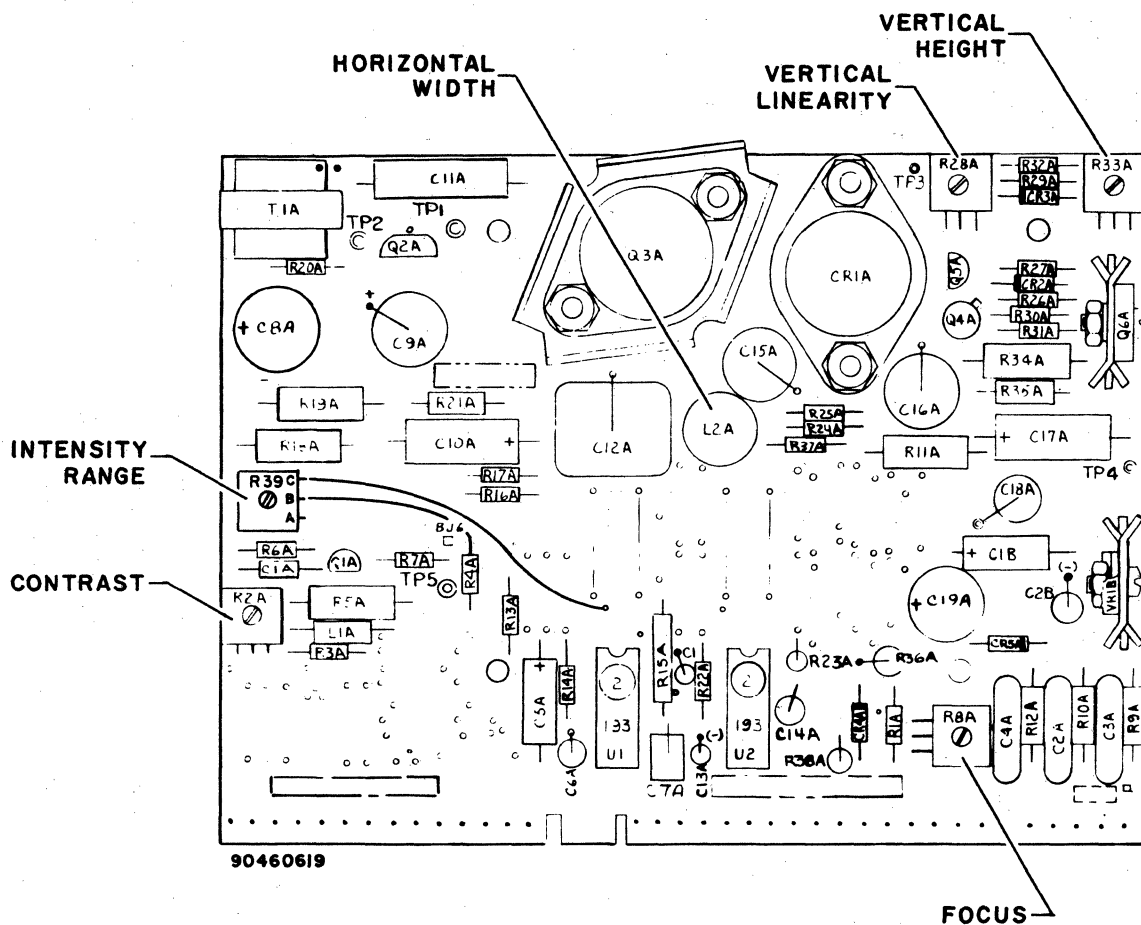

Figure CRT43. Monitor Printed-Circuit Board Adjustments (Focus Adjustments)
- 7) Adjust vertical height by turning adjustment screw (figure CRT43) until rectangle of display characters is 5.25 ± 0.1 inches (13.3 cm) in height.
- 8) Adjust horizontal width to 8.0 ± 0.1 inches (20 cm) by turning adjustment screw in coil (figure CRT43) using a 3/32-inch nonmetallic hex driver.
- 12) Adjust the INTENSITY RANGE control (figure CRT43) so that the raster (background scan lines) just disappear and a normal viewing intensity is obtained.
- 13) Adjust the FOCUS control (figure CRT43) to obtain the best resolution of the m characters throughout the entire display.